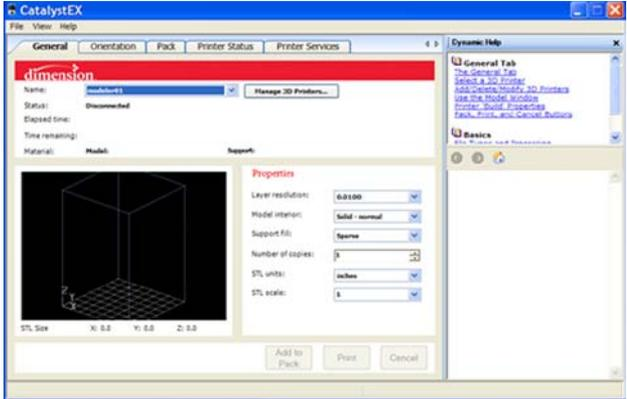

Figure 14: CatalystEX main window
2. Click on the CatalystEX icon  on the desktop of your PC. The CatalystEX main window opens (Figure 14 on page 40).